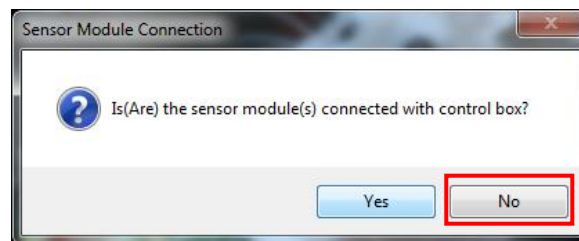

Figure 19. Select RS485 from the drop down menu
2. Next, click "No" button as in Figure 19.